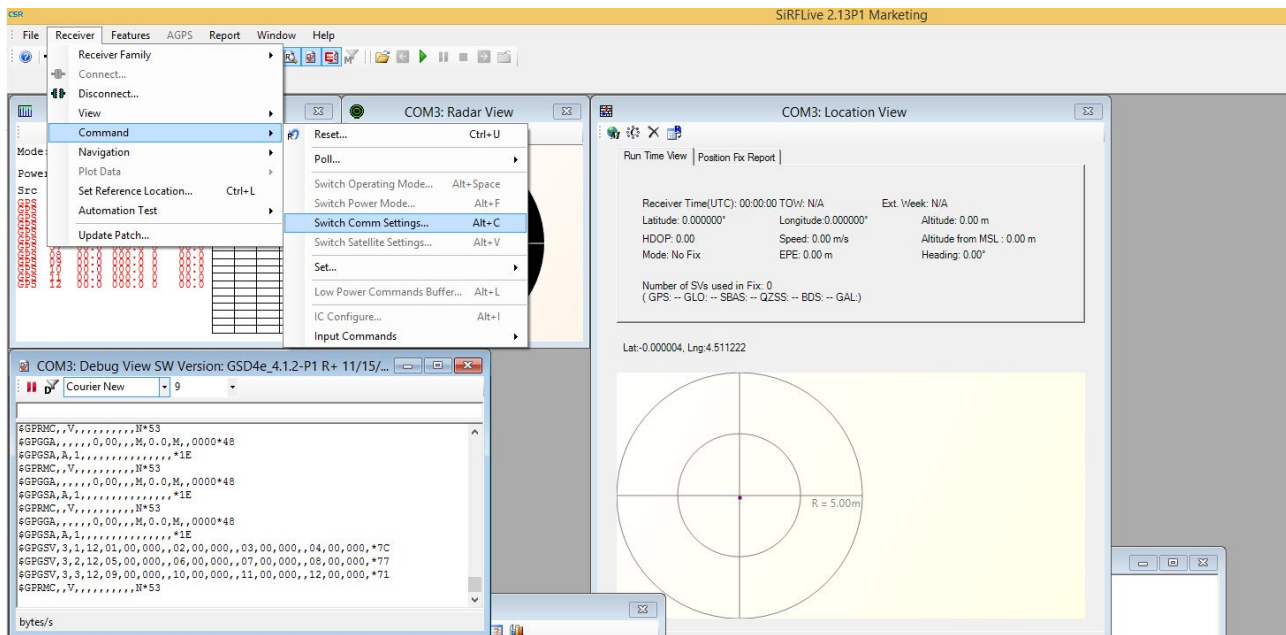

Figure 1 – Selecting Switch Comm Settings
1. Click on the top menu on “Receiver” -> Command -> Switch Comm Settings (see Figure 1).